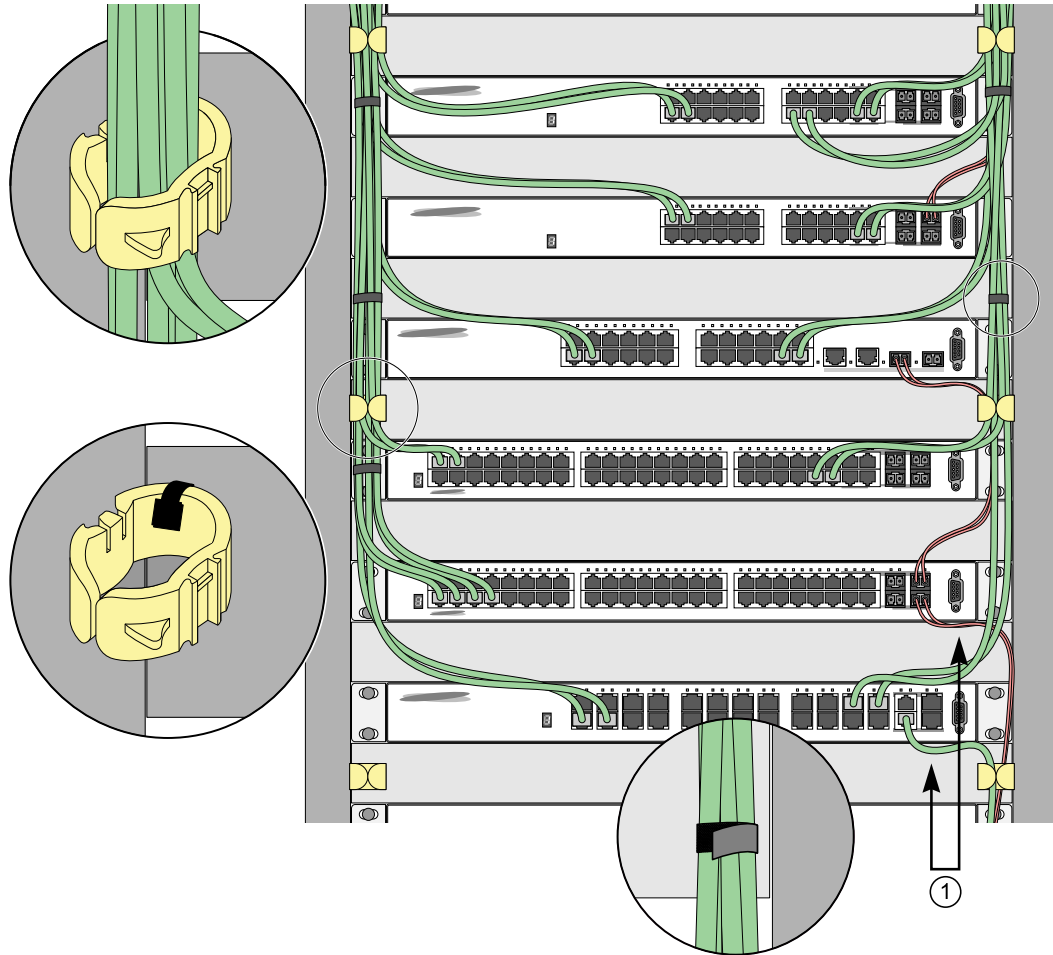

Figure 6: Properly Installed and Bundled Cable
- Provide enough slack, approximately 5 to 7.5 cm (2 to 3 in), to provide proper strain relief as shown in Figure 6 on page 27.
- When installing a patch panel using twisted pair wiring, untwist no more than 2.5 cm (1 in) of the cable to avoid radio frequency (RF) interference.